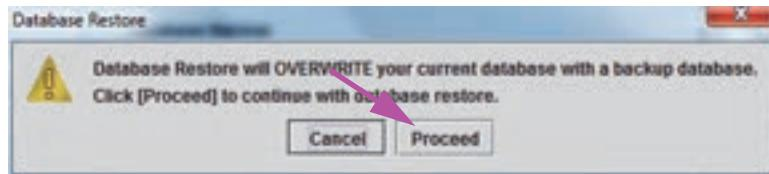

Figure 5-81. Database Restore Confirmation Dialog Box
8. The Database Restore confirmation dialog box appears. See Figure 5-81.